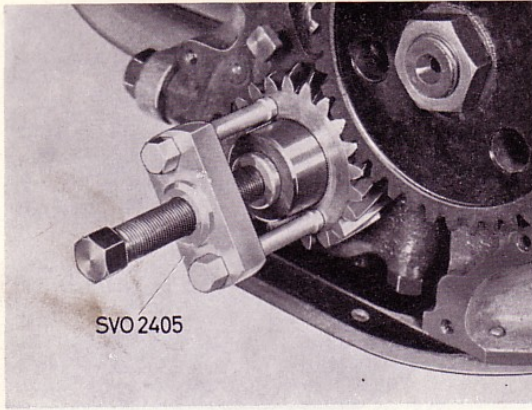
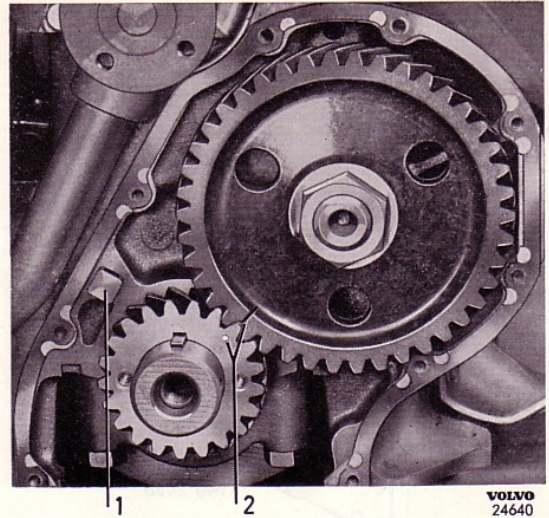

Fig. 46 Removing the crankshaft gear
Fig. 49 Marking on timing gears
5. Pull off the crankshaft gear by using puller SVO 2405, Fig. 46. Screw out the oil nozzle, blow it clean and then refit it as shown in Fig. 49. The gears are lubricated by oil fed through this nozzle.